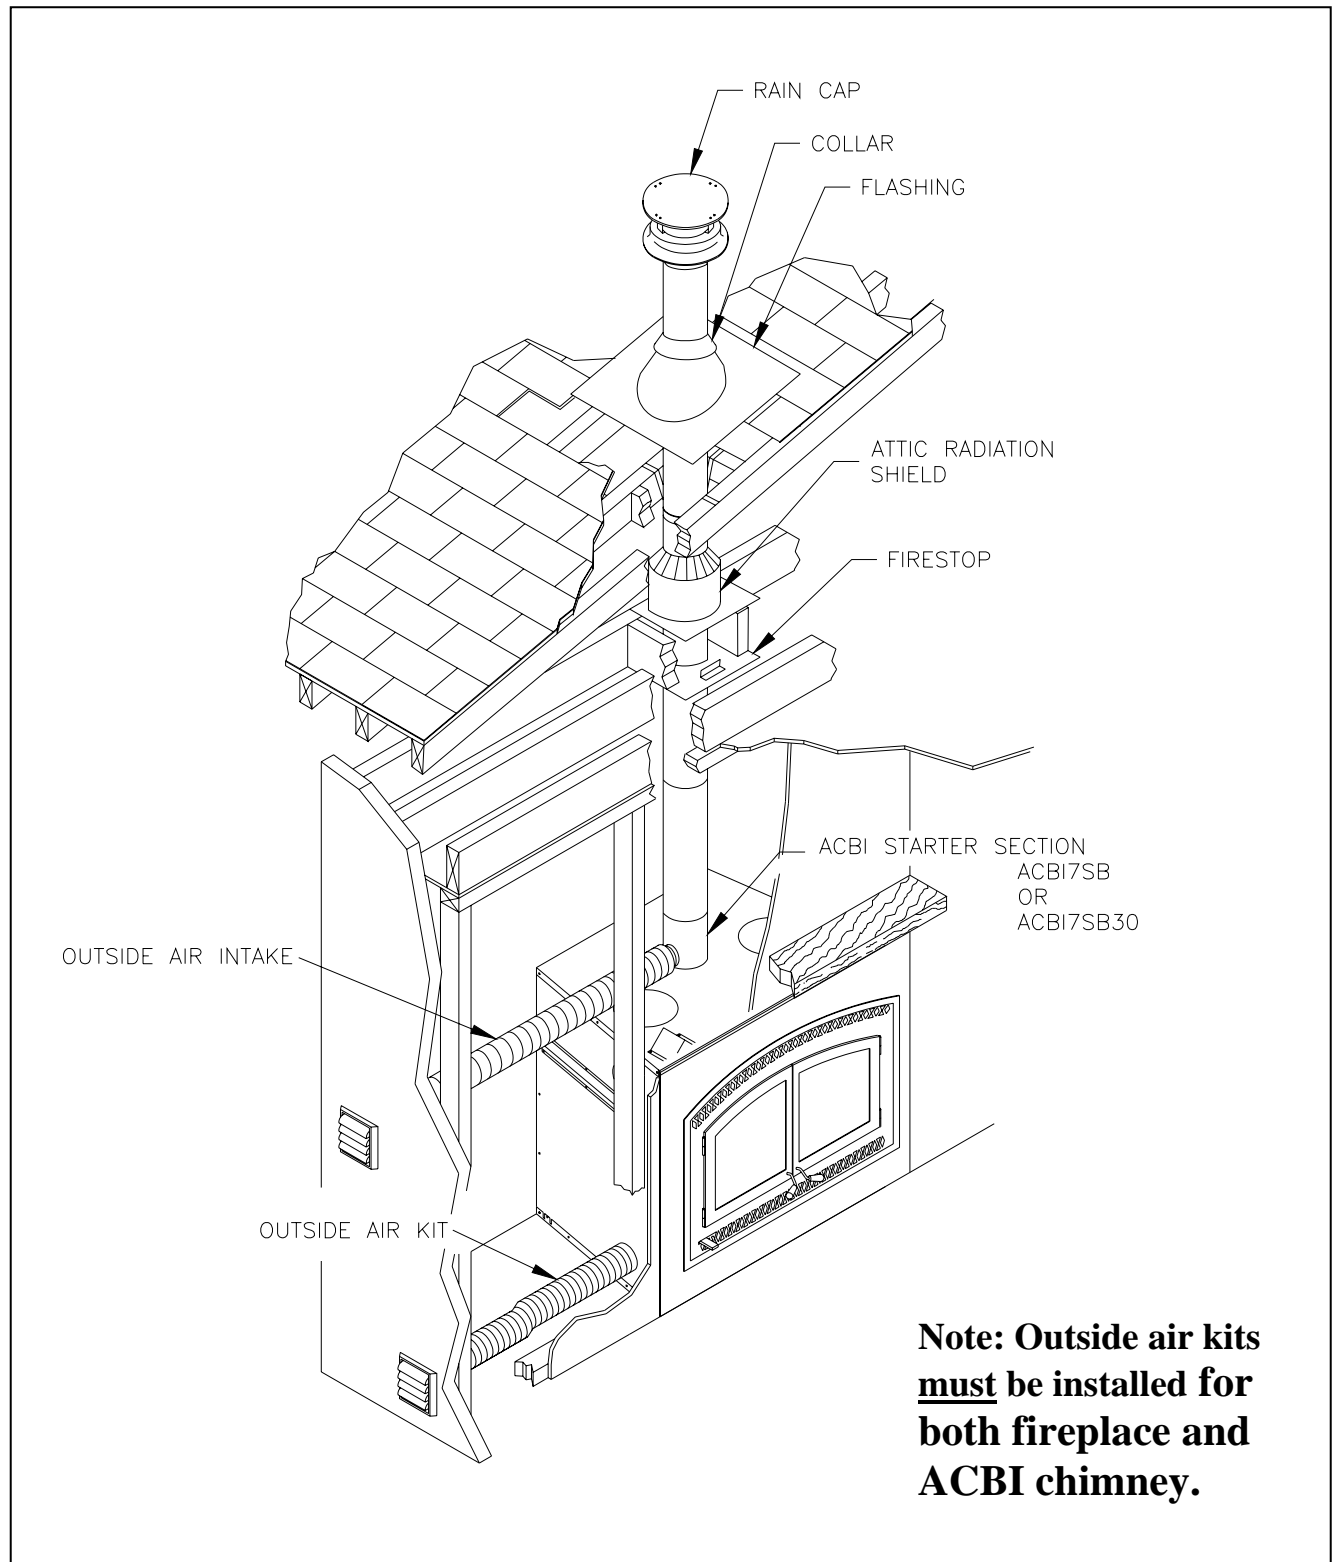

Figure 30
2. For Secure TempS2100+ / Nova TempHT6000+ / Secure TempGX chimneys, place the first chimney length on the fireplace. To lock it in place, turn ¼ of a turn clockwise. With the ACBI chimney, you must use a starter section before installing the first chimney length (figure 30). Continue installing chimney lengths making sure to lock each length in place.